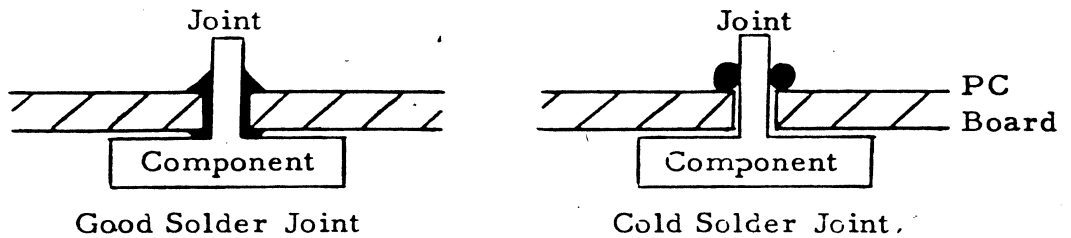

Figure 2 - Good vs. Bad Solder Joint
- Cold Solder Joint - This is caused when not enough heat is applied from the soldering iron causing bad solder connections. Cold solder joints are characterized by a dull, lumpy or balled appearance (Figure 2).